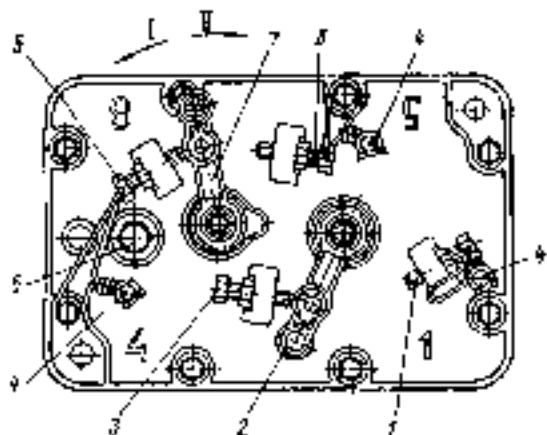

Fig. 42. Governor Top Cover:
On the governor cover are cast numerals 1, 4, 5 and 8 (Fig. 42) marking the location of the corresponding sections. Numbers of injectors and connection of pumping sections with engine injectors are shown in Fig. 48.
For setting the HPFP and its controls, and also for readjusting and checking in some cases, refer to the marks made (see Fig. 42).
The governor top cover (see Fig. 42) contains: governor control lever 2, stop lever 7, adjusting bolts and filter plug 5.
3. If control lever 2 (see Fig. 42) thrusts against maximum speed limiting bolt 7, check the pump cam-shaft revolutions which must correspond to initiation of throw-out of the rack. The governor must start throwing out the rack at cam-shaft speed of 1335–1375 min⁻¹. Otherwise, readjust using bolt 7.
4. If governor control lever 2 (see Fig. 42) thrusts against bolt 7, and when the cam-shaft revolves at (1300 ± 10) min⁻¹, check and, if need be, readjust the mean cyclic feed; it must be about 72.0–75.5 mm²/cycle.
5. Check and readjust, if need be, the fuel feed shut off through injectors when governor control lever 2 (see Fig. 42) rests against bolt 3. Check that the fuel feed is shut off at about 330–400 min⁻¹. When readjusting, use bolt 3.